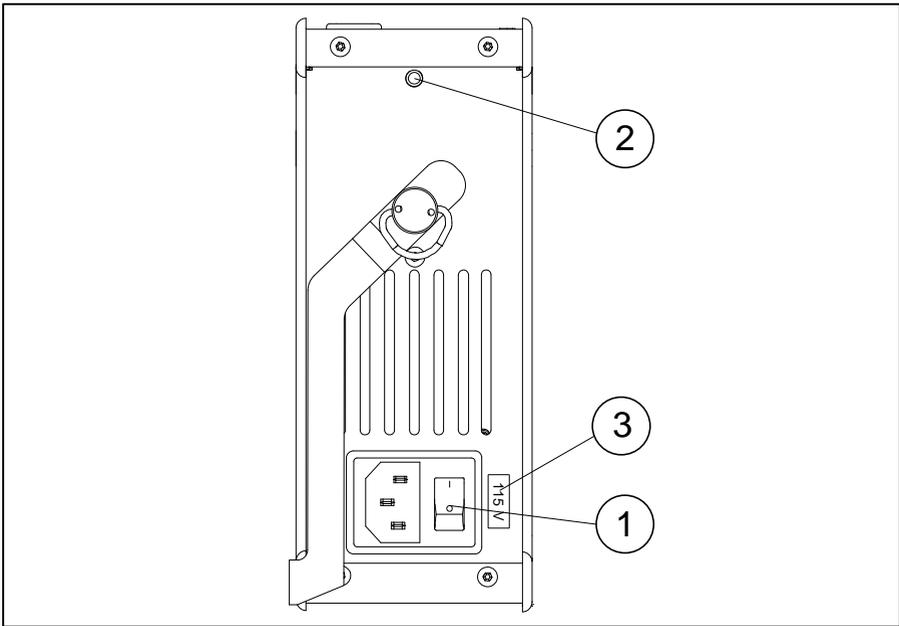

Fig. 5
-  Switch the calibrator on using the power control switch (Fig. 5, pos. 1).